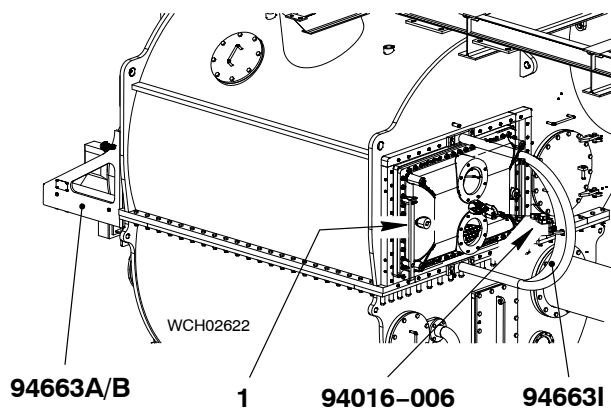
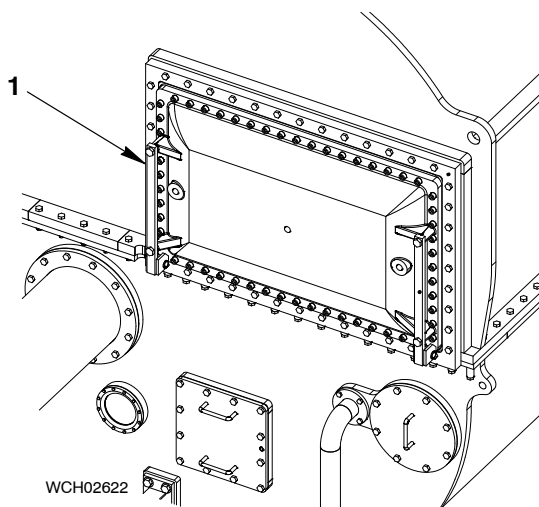

Fig. 11
Fig. 12
- 20) Operate the the manual ratchet (94016 006) to move the SAC fully into the scavenge air receiver (refer to Fig. 11).
- 23) Remove the two rollers (1) from the SAC.
- 24) Install the two rollers (1, Fig. 12) to the driving end of the SAC.